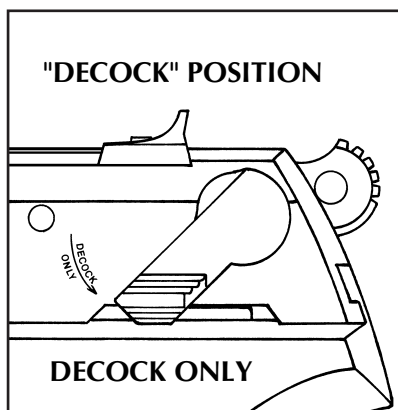

FIGURE 1
To decock the pistol, **point the pistol in a safe direction**. Depress the decocking lever until the hammer drops. The decocking lever first moves the firing pin into the slide far enough so that the rear end of the firing pin cannot be struck by the hammer. Only then will continued depression of the decocking lever safely drop the hammer to an uncocked position (see Figure 1). To return the pistol to firing condition, simply release the decocking lever (see Figure 2). It will spring upward to its original position. The pistol is then ready to fire by a “double-action” pull of the trigger. The hammer can also be manually cocked immediately before shooting a “single-action” firing. The trigger pull is both shorter and relatively lighter in the “single-action” mode, which is preferred for more accurate shooting.
1. The muzzle of the pistol must be pointing in a safe direction at all times, and fingers should be outside of the trigger guard. Decock the pistol by depressing the decocking lever until the hammer drops (see Figure 1, p. 12).